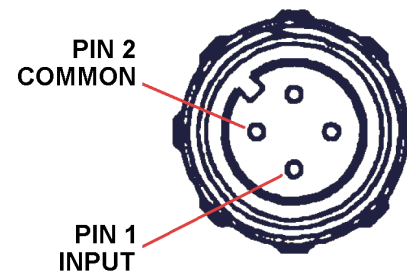

Figure 3. EXTERNAL IN.
- **EXTERNAL 1 and 2** — Buccaneer PX0410/04S/4550 connector (Fig. 3). Connect to neutron detectors, occupancy sensors, other peripherals; 0 V to +5 V with adjustable threshold; input pulled up to +5 V via 5000  $\Omega$  resistor. Set and monitor thresholds with firmware commands SET\_THRESH\_AUX, SHOW\_THRESHOLD\_AUX, SHOW\_INPUT, ENAB\_COUNT\_LIST, and DISA\_COUNT\_LIST.4 Waterproof threaded cap should be left in place when a port is not in use.